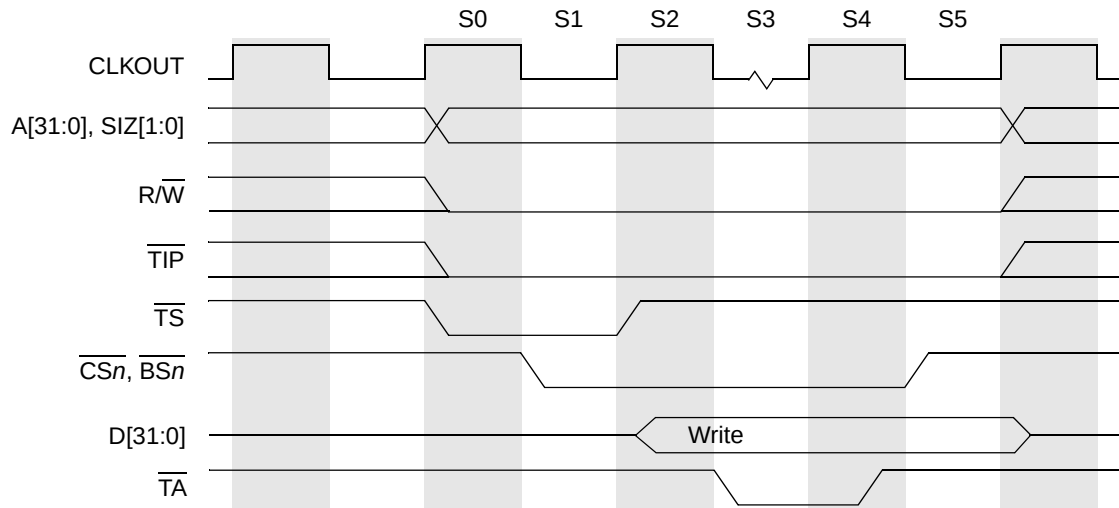

Figure 13-8. Basic Write Bus Cycle
3. The last clock of the bus cycle uses what would be an idle clock between cycles to provide hold time for address, attributes and write data. Figure 13-6 and Figure 13-8 show the basic read and write operations.
The write cycle timing diagram is shown in Figure 13-8.